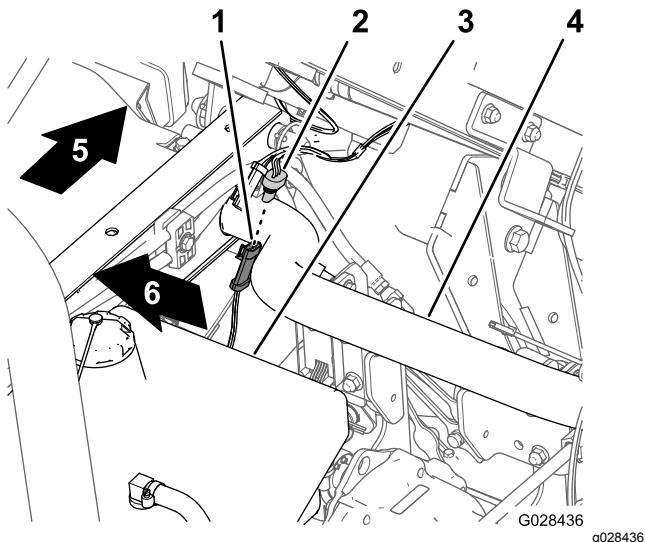

Figure 17
1. At the wiring harness for the sprayer, locate the 3-socket connector for the speed sensor circuit (Figure 17).
2. Connect the 3-pin connector of the wiring harness of the machine for speed sensor into the 3-socket connector of the sprayer harness for the speed sensor (Figure 17).